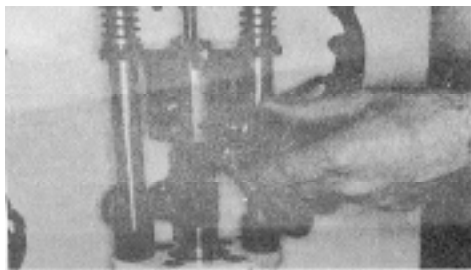

Fig. 6-1-74, F60128. Fuel inlet connector
9. Fuel is delivered to the injector through the inlet connector. Fuel pressure here is controlled at this point by a connecting line and pressure regulator. Fig. 6-1-74.